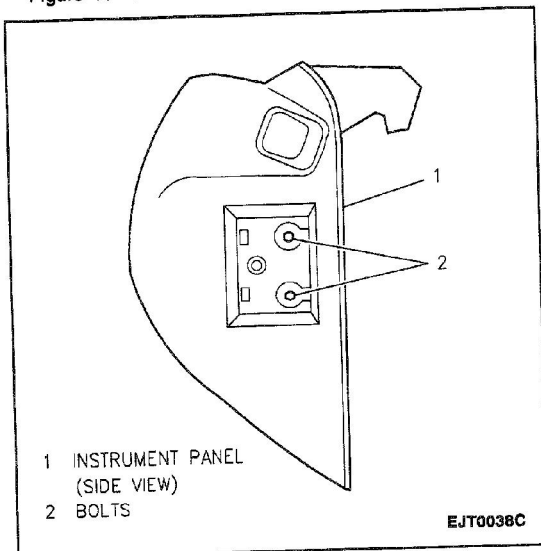

Figure 17—Instrument Panel Fastener Location (Right Side Shown, Left Similar)
30. Left side instrument panel support beam cover and two bolts (Figure 17).
31. Right side instrument panel support beam cover and two bolts (Figure 17).